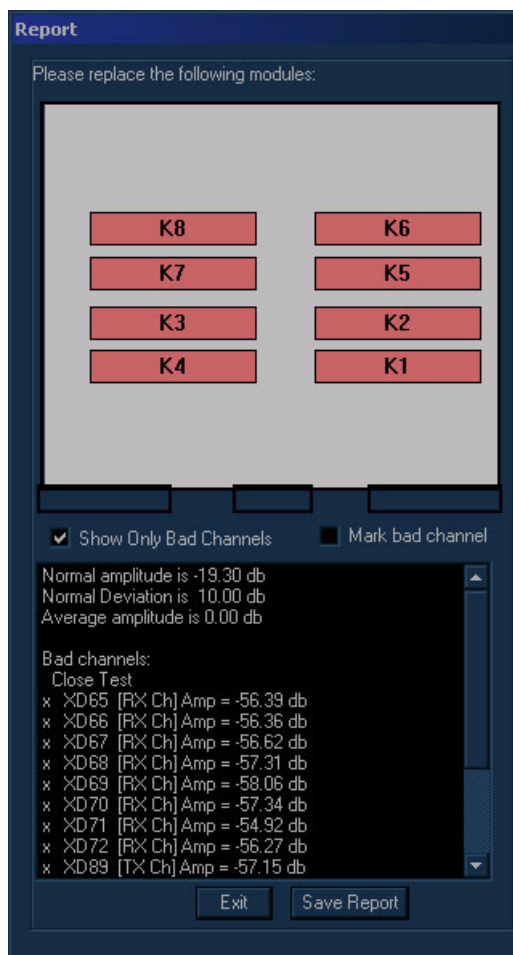

Figure 7-23 Report Dialog Box - Pencil Probe Test (Close)
- 6) Trackball to the **Start Close test** and press **Select**. The pencil probe test (close) is performed and the test results are displayed in the *Report* dialog box, as shown in Figure 7-23 on page 7-43.